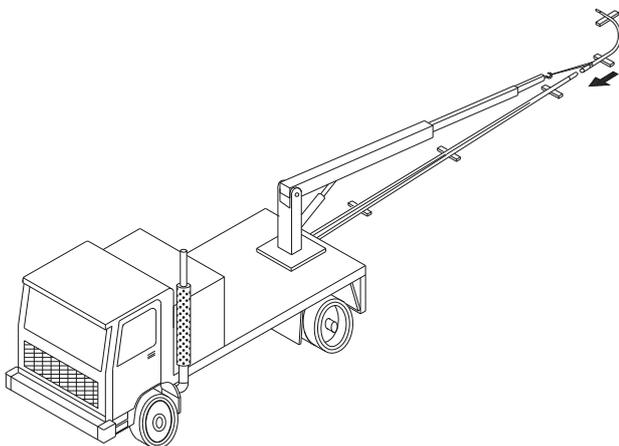

Figure 3
- A hiab truck can be used and the strop can be pulled by the lifting arm (Figure 3); or